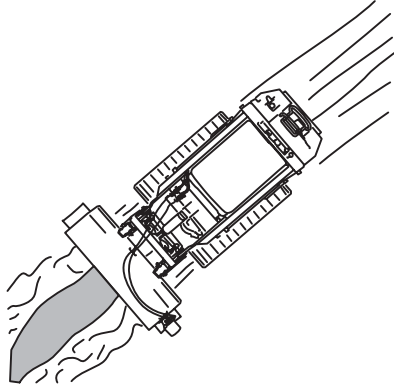

Figure 3
- For best trench filling, center the unit over the trench (Fig. 3).